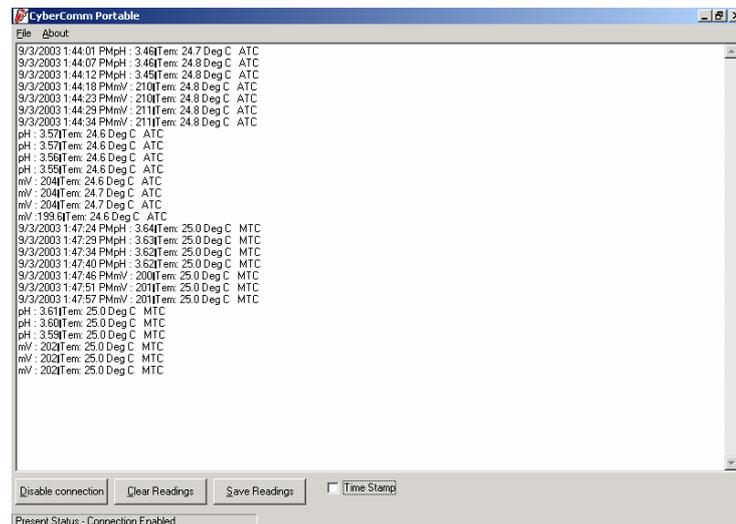

Figure 19: Example of a set of data print in CyberComm Portable DAS
4. With the CyberScan Portable meter switched ON, press the PRINT key to send data to the computer. See example Figure 19 below.